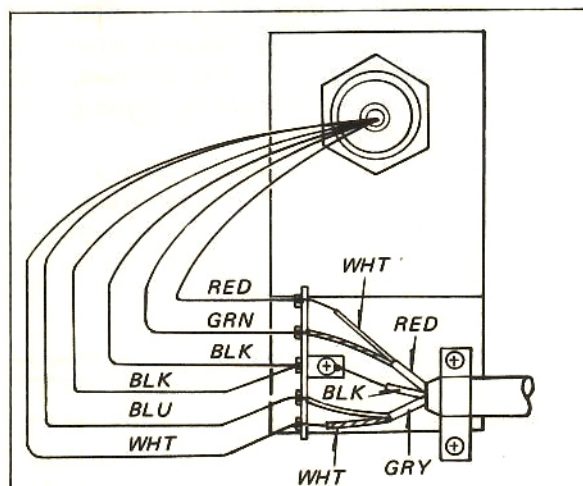

Fig. 2-12. Lead wire connection
3. Unsolder the leads from the terminal beneath the turntable base (See Fig. 2-12). The lead wires are coded as follows: